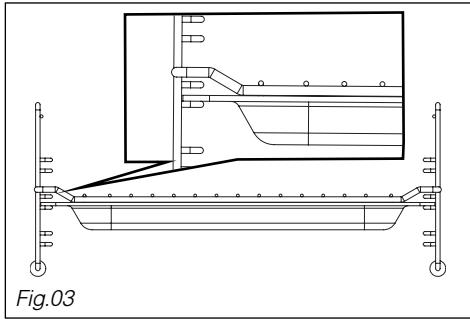

Fig.03
- *The grill + the glass drip tray:* for roasting and to recover cooking juices, place the grill on the drip tray (Fig.03).